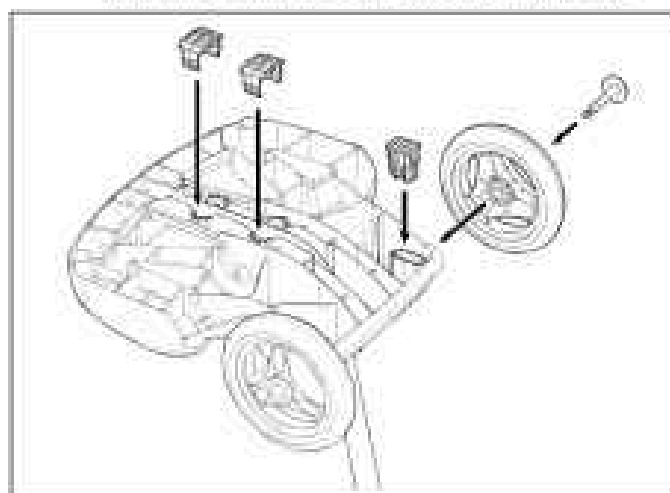

Figure 5. Snap in Support Blocks and Attach Wheels
5. Snap two support blocks into place (Figure 5).
6. Slide axle and hubcap piece through center of wheel and attach to base unit. Snap locking clip into place to secure wheel. Repeat to attach both wheels (Figure 5).